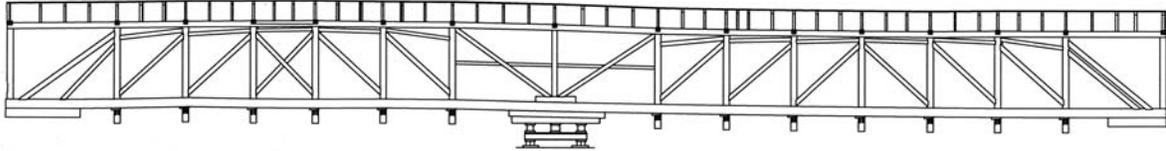
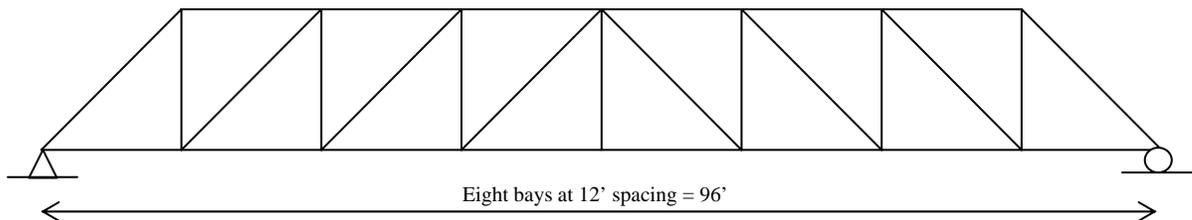

Fig. 1: Taftsville Bridge Structure
Fig. 2: Approximate Taftsville Bridge Structure
The Taftsville Bridge in New Hampshire is a wooden covered bridge dating from 1836. Figure 1 illustrates the actual structure of the two-span bridge and Figure 2 illustrates an approximate model of the longer span. For the purpose of structural analysis, assume that the bridge truss is 12 feet high and spans 96 feet with eight equal bays of 12 feet. (The actual geometry varies slightly from this and your analysis will be an approximation to the actual structure.) All angles in the approximated truss are 45 degrees.
- Assuming that the wooden truss of the bridge shown in Figure 2 must support a total dead and live load of 1,500 pounds/ft, determine the magnitude of the point load applied at each node in Figure 2. (For simplicity, apply all loads to the bottom nodes of the truss.)
- Consider the actual bridge structure illustrated in Figure 1. With reference to geometry, design, materials, internal forces, etc., write a paragraph describing what the bridge can teach an observer about the state of construction in 19th century America.